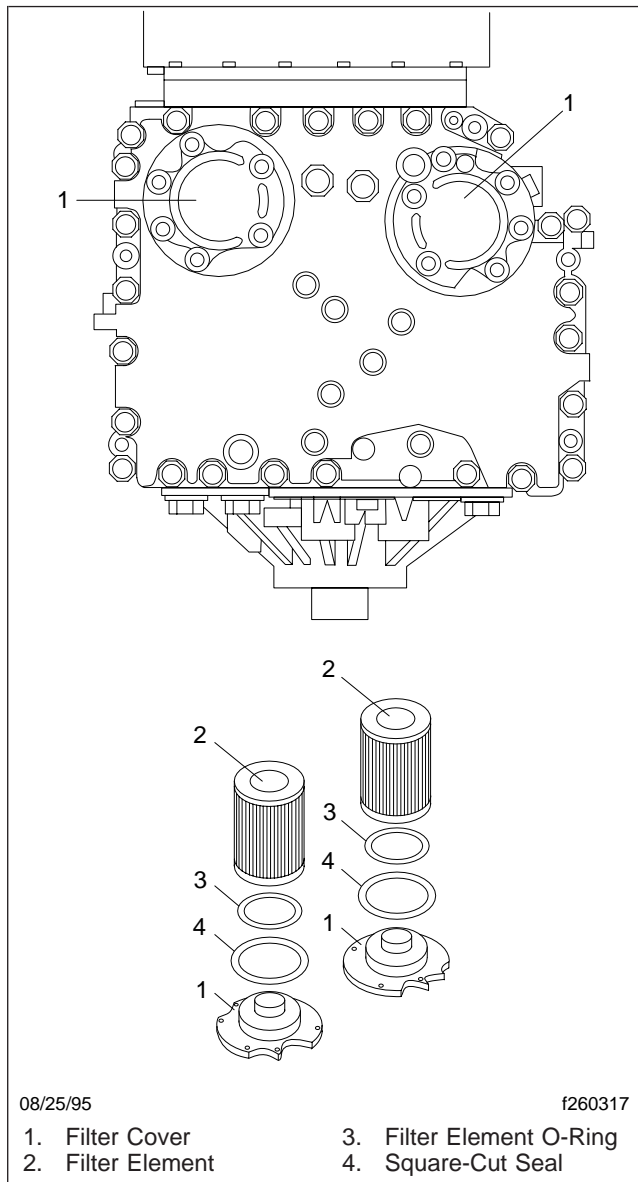

Fig. 5, Allison MD Series Transmission Filter Locations and Components
5. Remove the filter covers, O-rings, and two square-cut seals from the transmission. See Fig. 5.